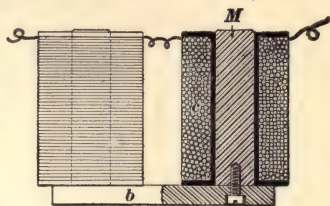
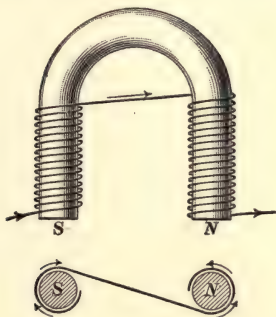

FIG. 29.
FIG. 30.
32. The most convenient form of electromagnet for a great variety of uses is the *horseshoe*, or *U-shaped*, electromagnet, Fig. 30. It consists of a bar of iron bent into the shape of a horseshoe with straight ends and provided with two magnetizing coils, one on each end of the magnet. The two ends which are surrounded by the coils are the *cores* of the magnet, and the arc-shaped piece of iron joining them together is known as the *yoke* of the magnet. The ordinary U-shaped electromagnet is made in three parts, namely, two iron cores wound with the magnetizing coils, and a straight bar of iron joining the two cores together for a yoke,
as shown in Fig. 29. In looking at the free ends of the two cores, Fig. 30, the current should circulate around one core in an opposite direction to that around the other.